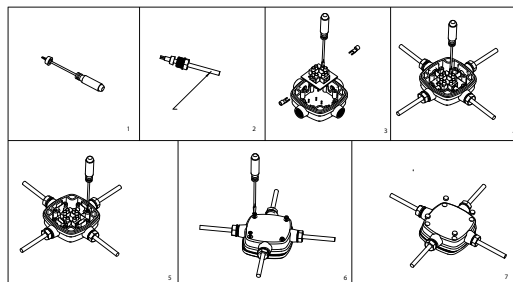

Figure 2
4. For multiple connections use SI LITE JBOX2 ( IP68 junction box ) see fig 2.